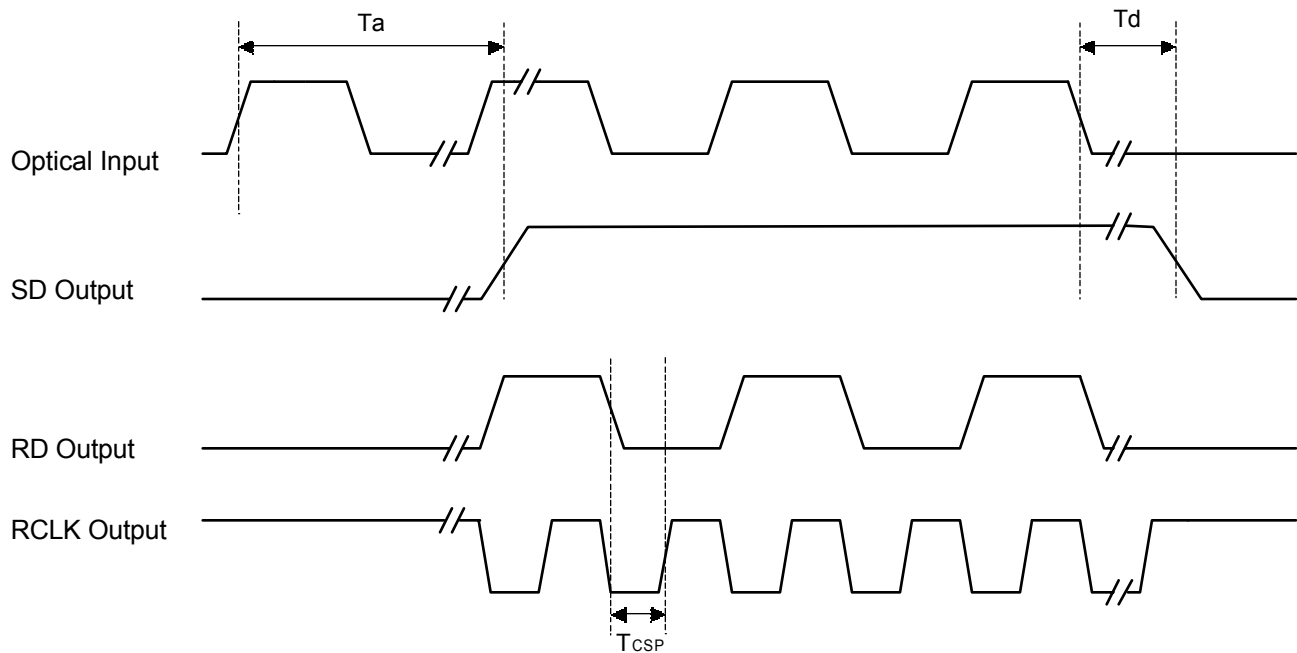

Figure 6. Timing Chart
- Time difference between RD transition and rising edge of RCLK. Refer to Figure 6.